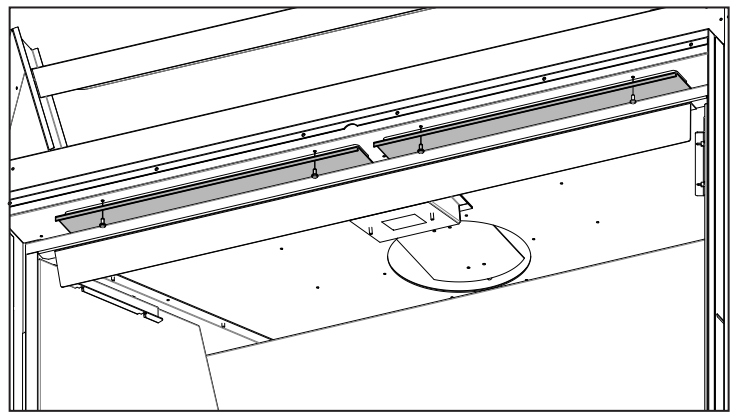

Figure 40: CSS Cover Plates
- Step 4.** Remove the two cover plates on the ceiling of the unit. These are secured by four (4) T-20 screws. See Figure 40.